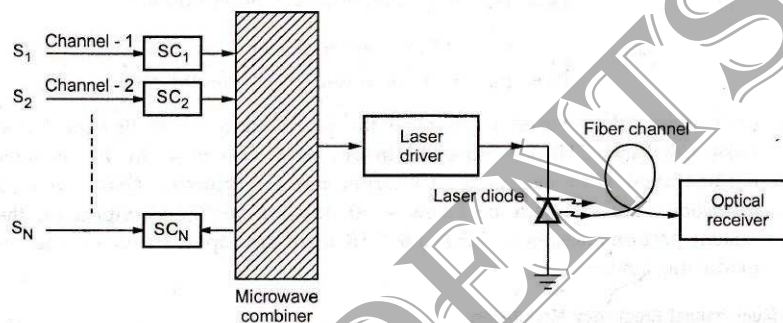

Fig. 6.1.5 Sub-carrier multiplexing
- x The input can be analog or digital baseband signal. The input signals are modulated sub-carriers are then combined to give FDM signal. The FDM signals are then combined in microwave combiner. The combine signal is then modulates the intensity of semiconductor laser by adding it to bias current. Fig. 6.1.5 shows this arrangement.